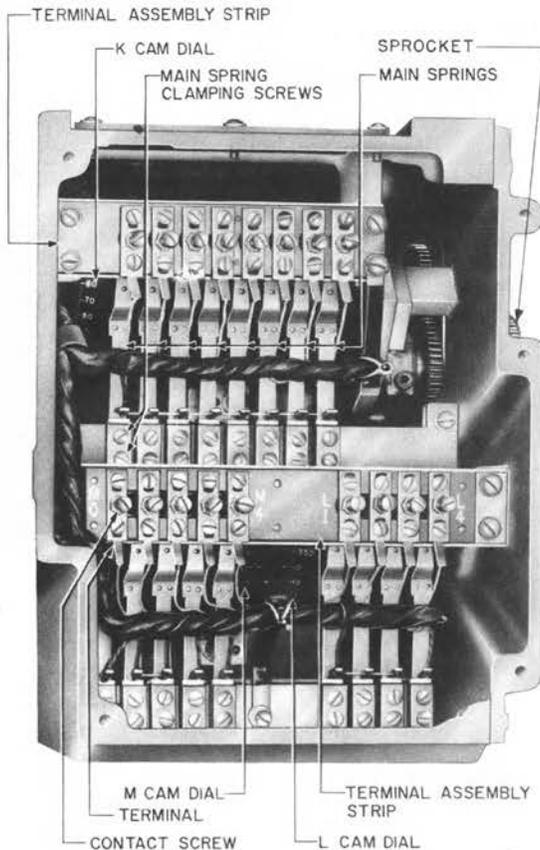

Fig. 10—Cam Switch
- (h) **K Cam:** With the perforator in the home position (1.05), the K cam dial (Fig. 10) shall indicate
- (i) **L Cam:** With the L cam dial indicating 0 degrees, the K cam dial (Fig. 10) shall indicate
- (1) Place the manual control handle on the stub shaft.
- (2) Manually operate the LCH armature.
- (3) Rotate the handle clockwise until the perforator is out of the home position.
- (4) Release the LCH armature.
- (5) Continue to rotate the handle until the K cam dial is at 0 degree which corresponds to the L cam 0 degree position when the perforator is near the home position.
- (j) **Brake Cam:** The brake cam of the latch unit shall engage the brake cam roller when the L cam dial (Fig. 10) indicates